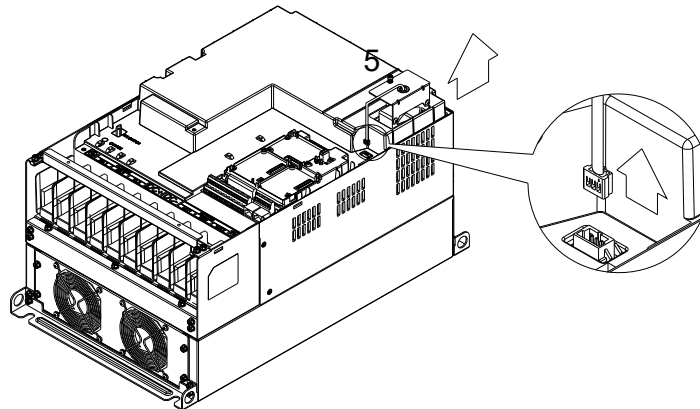

Figure 3
3. Loosen screw 5 (figure 3) and disconnect fan power and pull out the fan. (As shown in the enlarged picture 3) Screw 5 Torque: 10~12 kg-cm / [8.6~10.4 lb-in.] / [1.0~1.2 Nm]